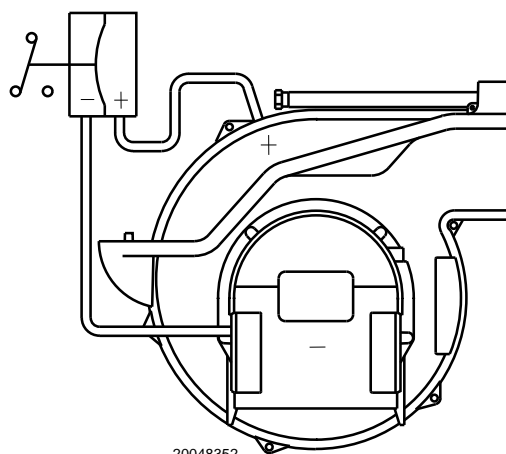

Fig. 33
- Adjust the air pressure switch (Fig. 33) to the start of the scale.
The air pressure switch is connected in differential (see Fig. 33) and is activated by both the negative pressure of the air intake and the air pressure from the fan.